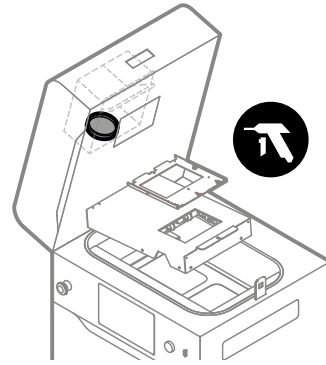

Fig. 12.44 Cleaning F-Theta scanning lens.
12. Use compressed air to clean the lens surface (fig. 12.44). Do not touch the lens with anything!